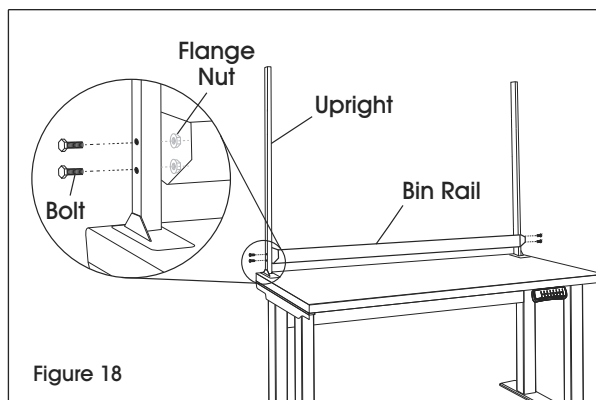

Figure 18
2. Secure to uprights with four 1½" bolts and flange nuts. (See Figure 18)